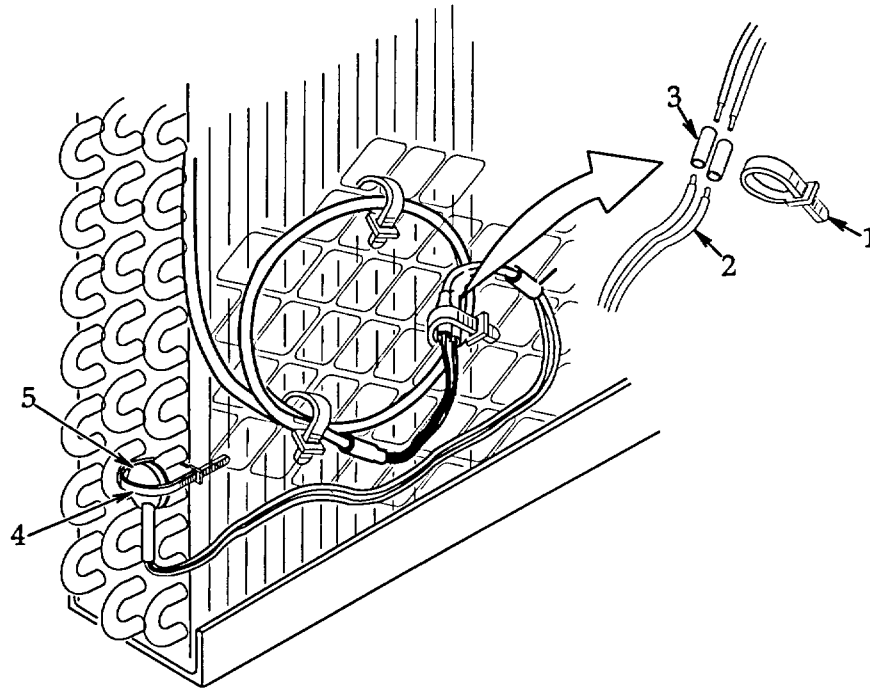

Figure 4-50. Outside Coil Temperature Sensor (RT3).
a. **Removal.** See figure 4-50.
b. **Installation.** See figure 4-50.
- (1) Secure outside coil temperature sensor (5) to coil using small tiedown strap (4). Cut to remove excess tiedown strap material.